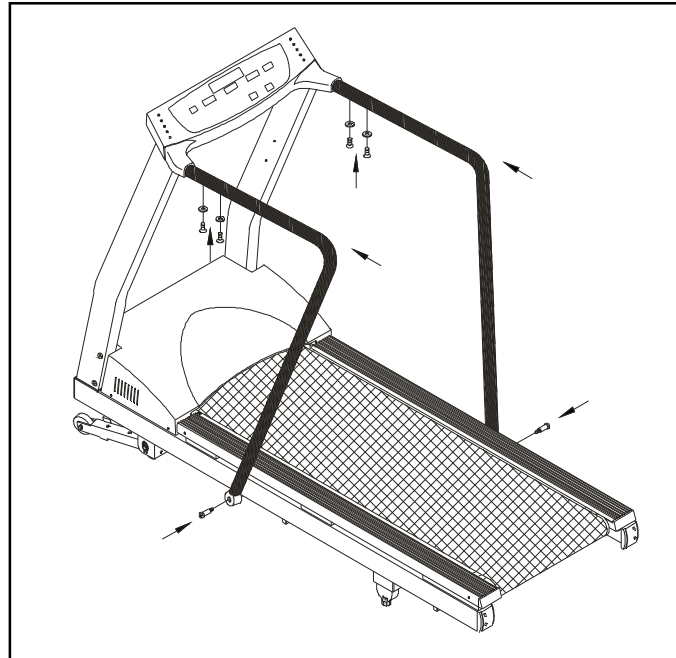

Fig.3
3. Assemble the side handrails using two bolts and washers provided on each side. **DO NOT TIGHTEN YET** (see Fig.3).